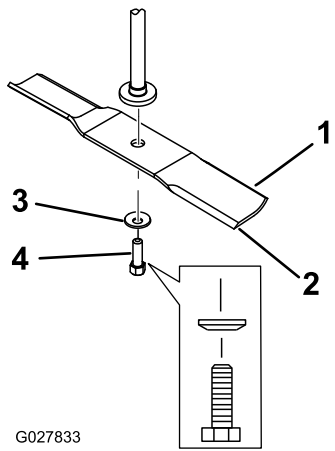

Figure 59
2. Remove the blade bolt, curved washer, and blade from the spindle shaft (Figure 59).
- Install the blade onto the spindle shaft (Figure 59).
- Install the curved washer (cupped side toward the blade) and the blade bolt (Figure 59).